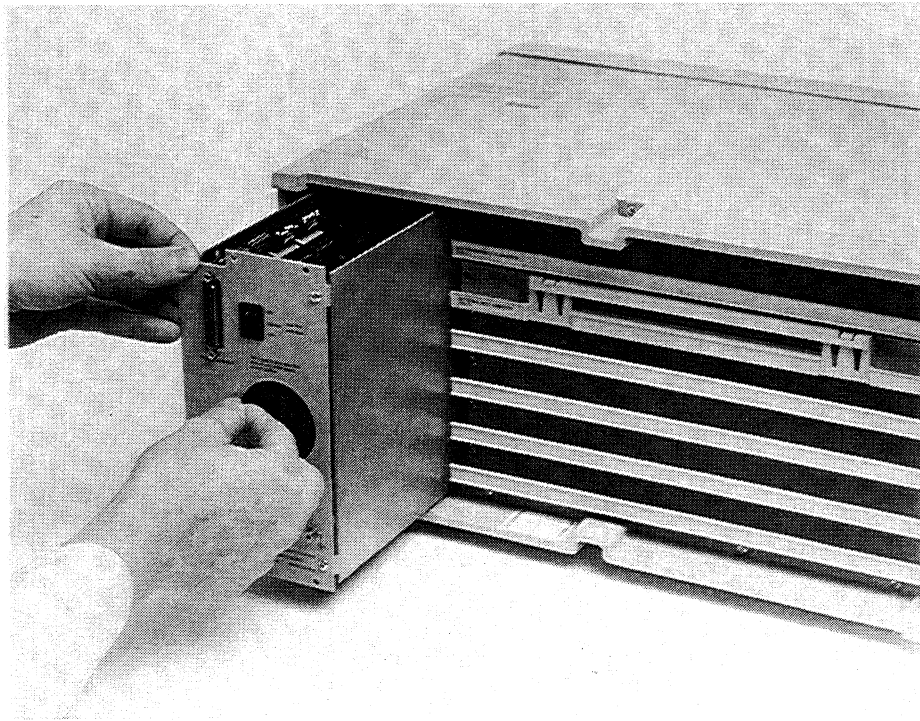

Figure 3-3. Removing the Computer Interface Module
2. See Figure 3-3. Slide the Module out by grasping the finger indentation in the fan filter hole and slide it straight back and out.